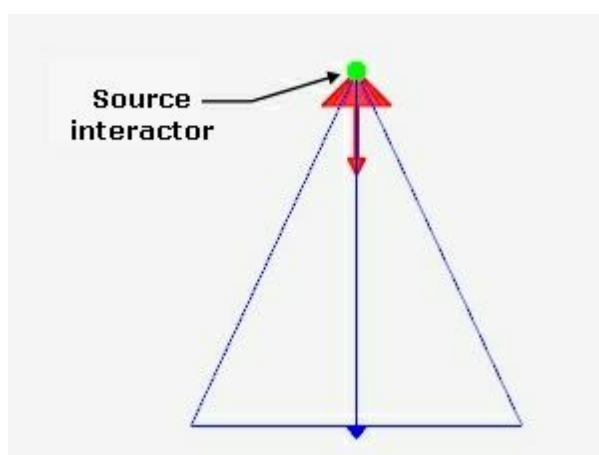

Figure 6
- The first interactor is the **source interactor**. It is located at the source of the light and is highlighted in light green on figure 6.